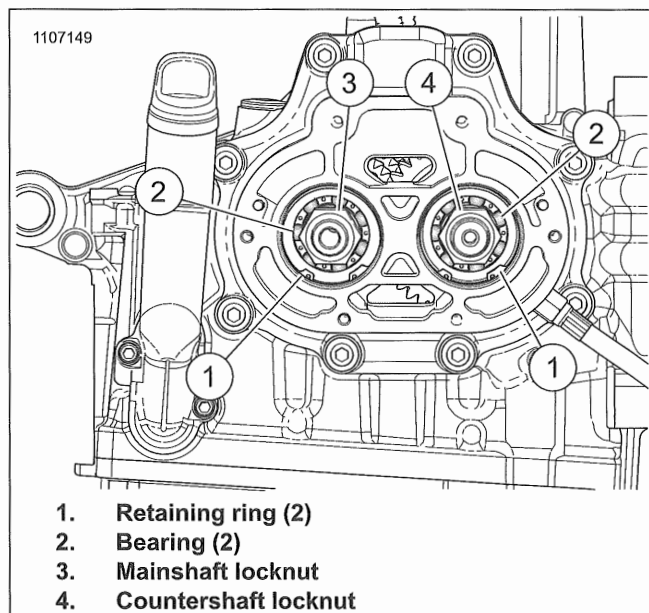

Figure 5-47. Bearing Housing Locknuts
6. See Figure 5-47. Remove mainshaft and countershaft locknuts.